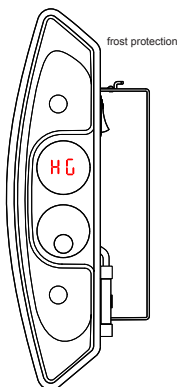

Figure 4
- Turning the knob slightly to the right (position \*), the letters HG will be shown in the display, indicating that the heater is in the frost protection mode. In this position, the heater operates when the room temperature is less than 7°C. (Fig. 4)